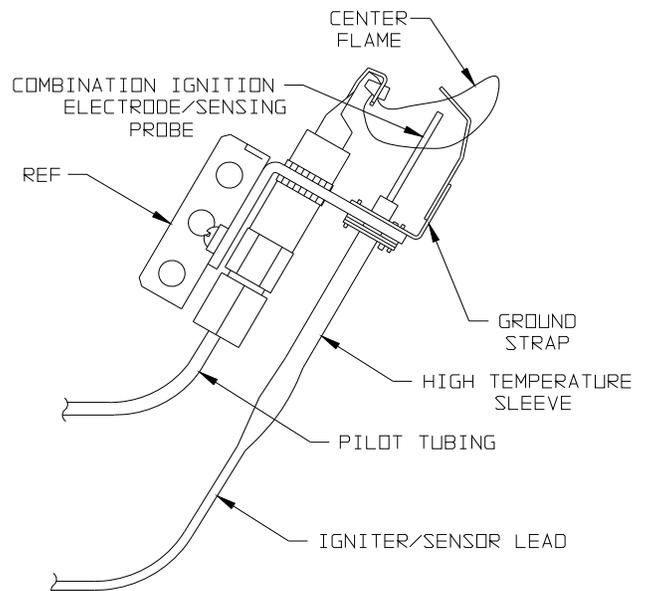

Figure 12-5: Pilot Burner Flame
13. Check Pilot Burner Flame - The pilot burner produces three (3) flames. The center flame should be steady, medium hard blue enveloping 3/8 to 1/2 inch of sensing probe. See Figure 12-5.